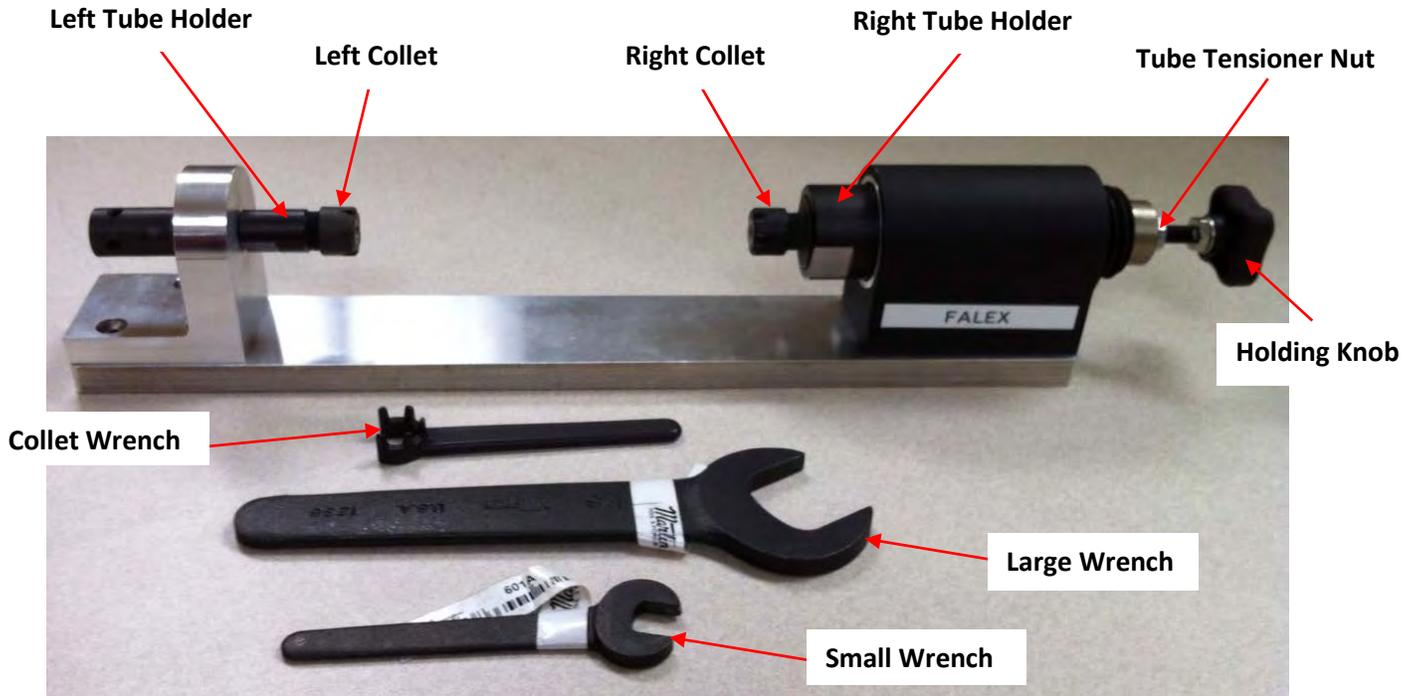

Figure C1 – Tube Tensioner assembly
1. Familiarize yourself with the Tube Tensioner assembly and associated tools (figure C1).